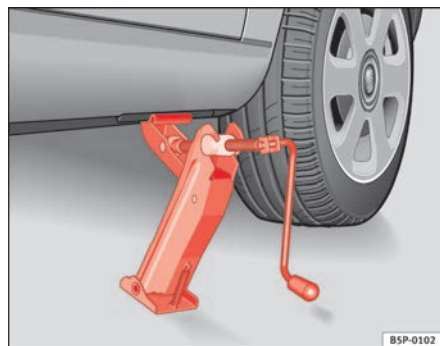

Fig. 177 Fitting the jack
- Align the jack so that the arm of the jack fits around the rib under the door sill and the movable base plate of the jack is flat on the ground ⇒ fig. 177.